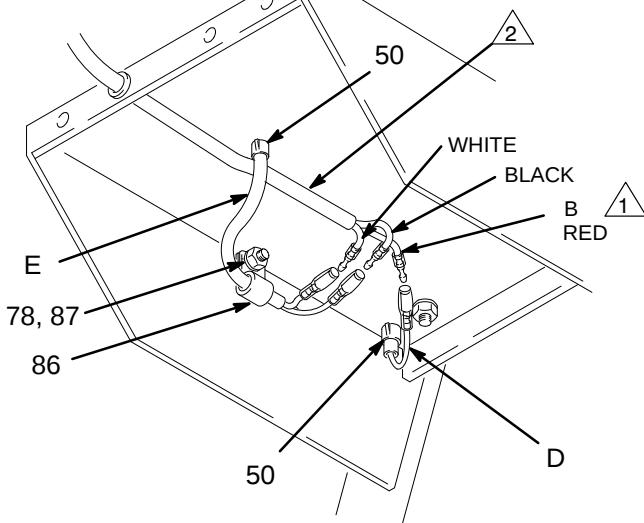

Fig. 1 Bottom View of Engine and Cart
3. Reconnect all electrical connections. See Fig. 1.